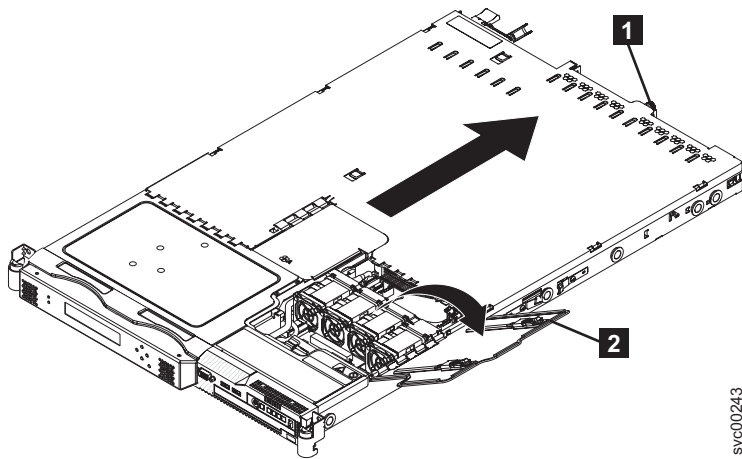

Figure 70. The SAN Volume Controller 2145-8G4 with fan door open
3. Loosen the thumbscrew (**1** in Figure 70 on page 71) that secures the cover at the rear of the SAN Volume Controller 2145-8G4.